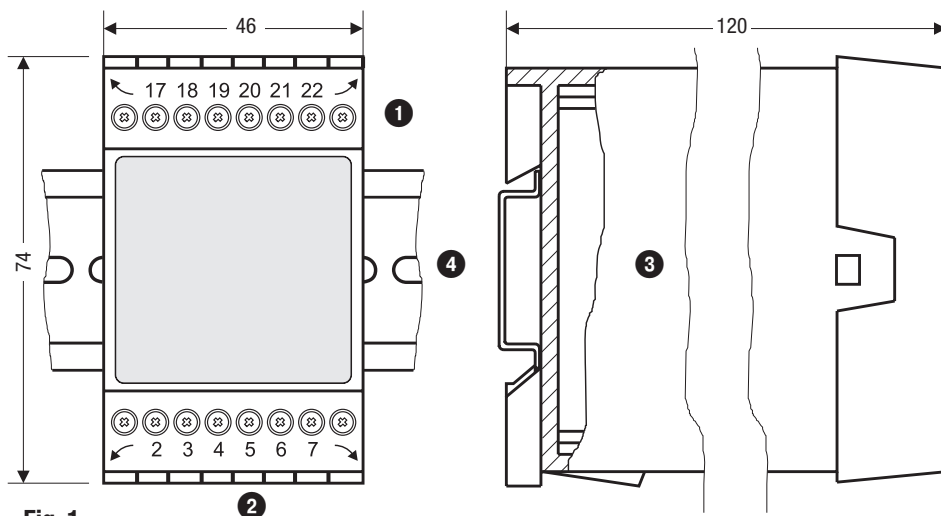

Fig. 1
The level switch NRS 1-52 is clipped onto the support rail ④ type TH 35, EN 60715 in the control cabinet. **Fig. 1**